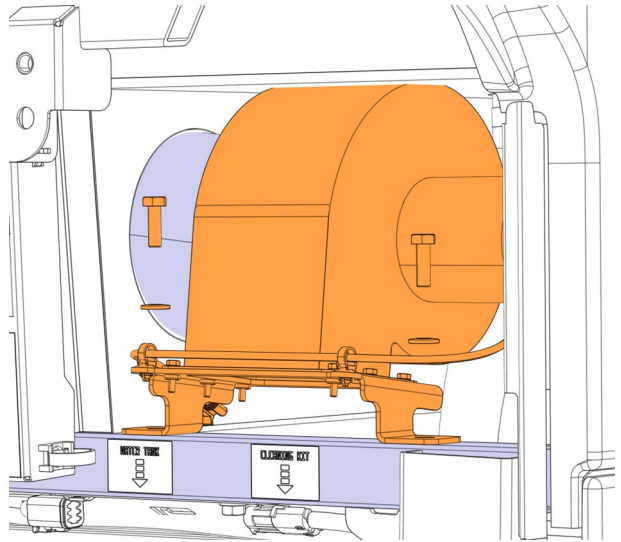

FIGURE 1
- Figure 1: With MCC fan installation.